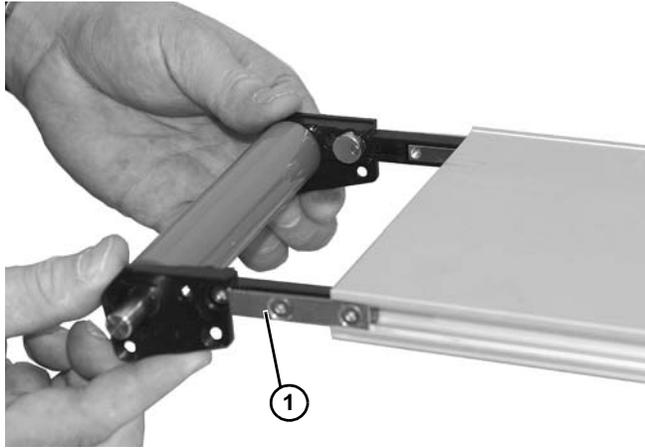

Figure 35
5. Remove the drive spindle assembly (Figure 35, item 1) from the conveyor frame.